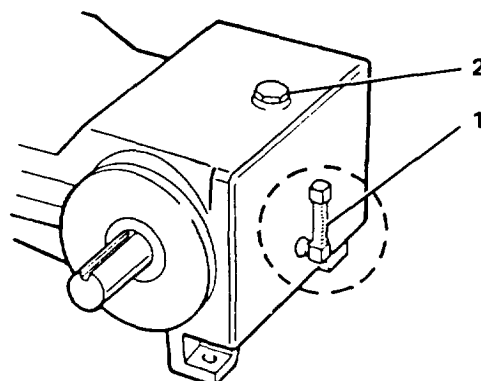

Figure 3-20. High Pressure Pump Oil Level
- a. Check oil level in high pressure pump sight gage (1, Figure 3-20).
- a. Remove oil add plug (2).
- b. Add oil at plug port until sight gage (1) gives mid level reading.
- c. Replace plug (2).